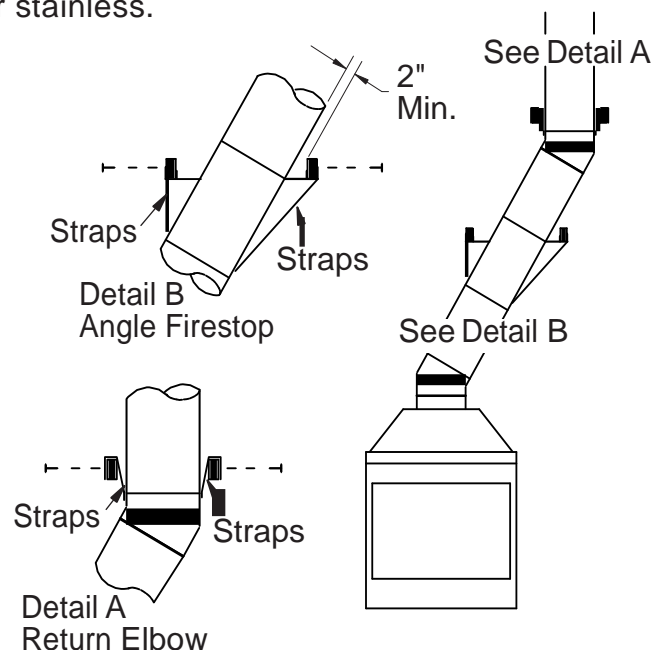

Figure 16 - Ceiling Support Pipe 12S-12DM
2. Chimney weight above offset rests on return elbow. Straps must be securely nailed to rafters or joists (see Figure 16, details A and B).